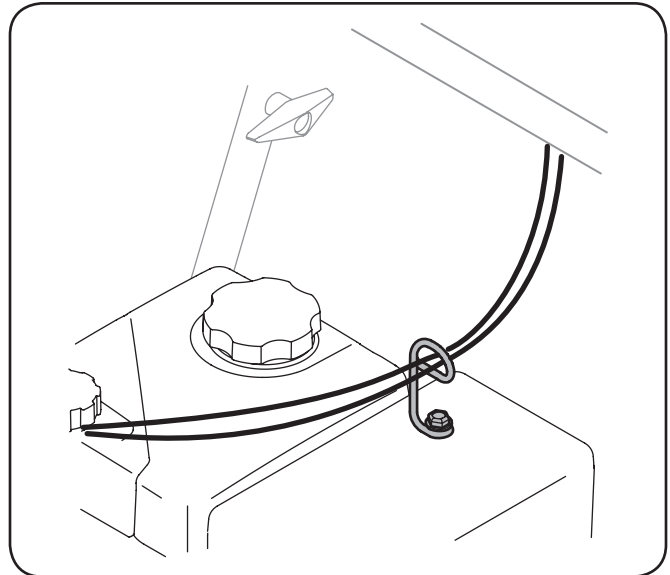

Figure 3-6
4. Check that the chute cables are properly routed through the cable guide on top of engine shroud. See Figure 3-6.